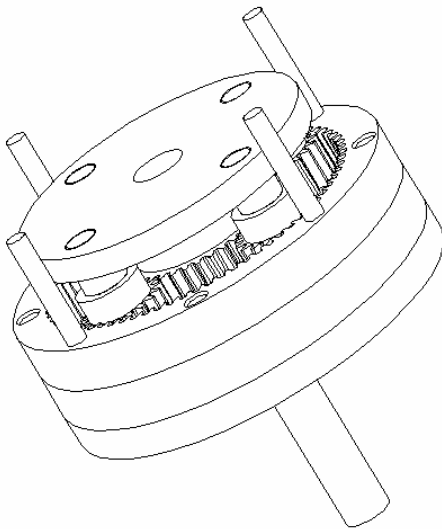

Figure 7a
12. Using hydraulic press, press Planet Plate Drive #004 into planetary shaft as shown in figure 7a.